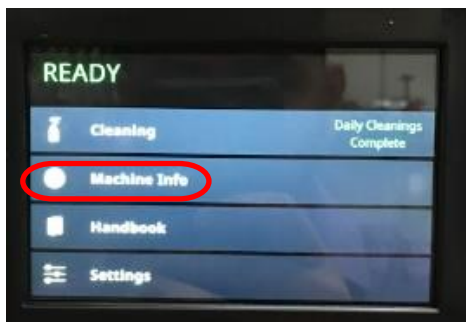

Figure 10: Home Screen with Machine Info Circled.
- i. Select MACHINE INFO. See **Figure 10**.